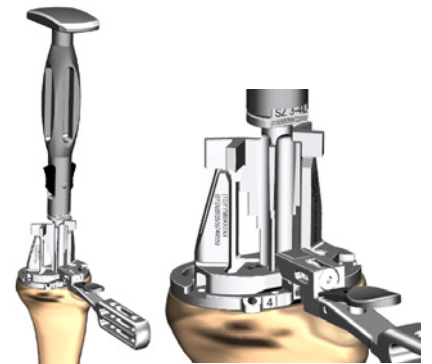

Figure 51
- 6 Align the fin punch to guide and slightly impact to ensure it is aligned properly within the guide (Figure 51). Continue to impact the fin punch through the guide until a positive stop is achieved.